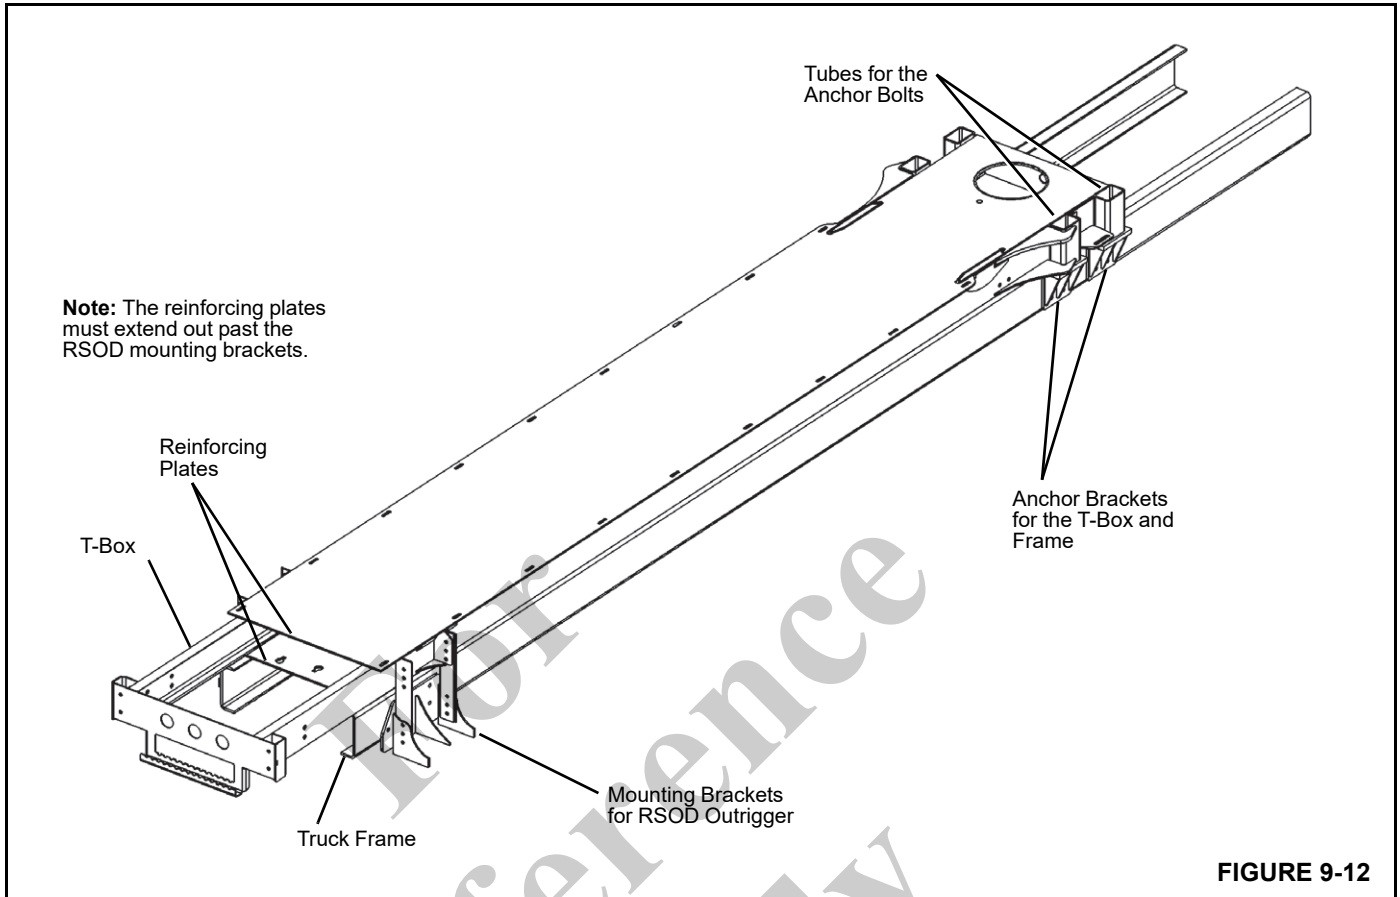

FIGURE 9-12
NOTE: The top and bottom T-box reinforcing plates must extend past the RSOD mounting position (Figure 9-12). If this cannot be accomplished because of a long cab to tandem (CT) dimension, contact the factory.
3. Clamp the anchor brackets on the truck frame so that the holes for the anchor bolts line up with the tubes for the anchor bolts (Figure 9-12). Check for interference with truck frame crossmembers.